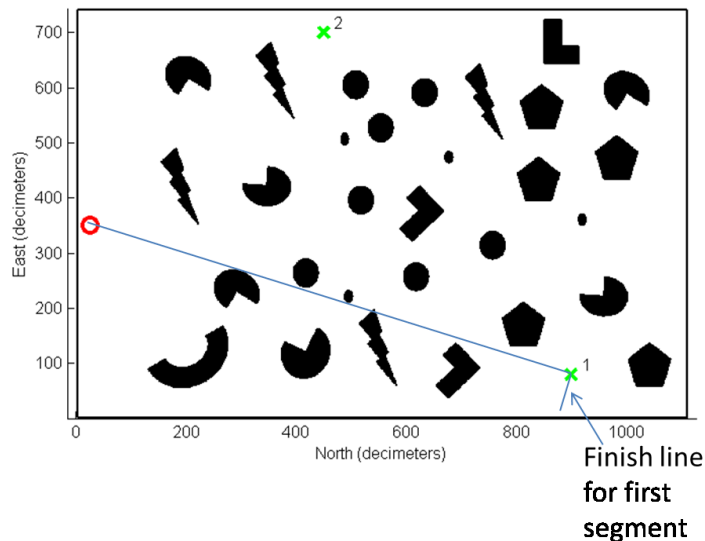

Figure 3: Map and first line segment with finish line for aerial racing.
- c) Assume perfect knowledge of the robot position (these high cost racers are using RTK-GPS and weapons-grade IMUs). Define an algorithm for online mapping and motion planning that uses trajectory rollout and current heading to the goal location as a desired direction. Be sure to explain how you select what direction to point the vehicle sensors, which sensors to fire and what inputs to use for trajectory rollout. A waypoint is considered reached if the vehicle crosses the line emanating from the endpoint of a segment perpendicular to that segment and outward from the center of the course, as depicted in Figure 3.
- d) Implement the algorithm defined above and fly a single circuit of the course, defined in racing.m and depicted in Figure 3, from the start through the two waypoints and back to the start point in the order specified. Use only the currently constructed map for planning, and note that the overall map size is 111.2 X 73.3 m, and is defined in 0.1 m grid cells. Show your map and path at six points, half way through and at the end of each segment of the race.